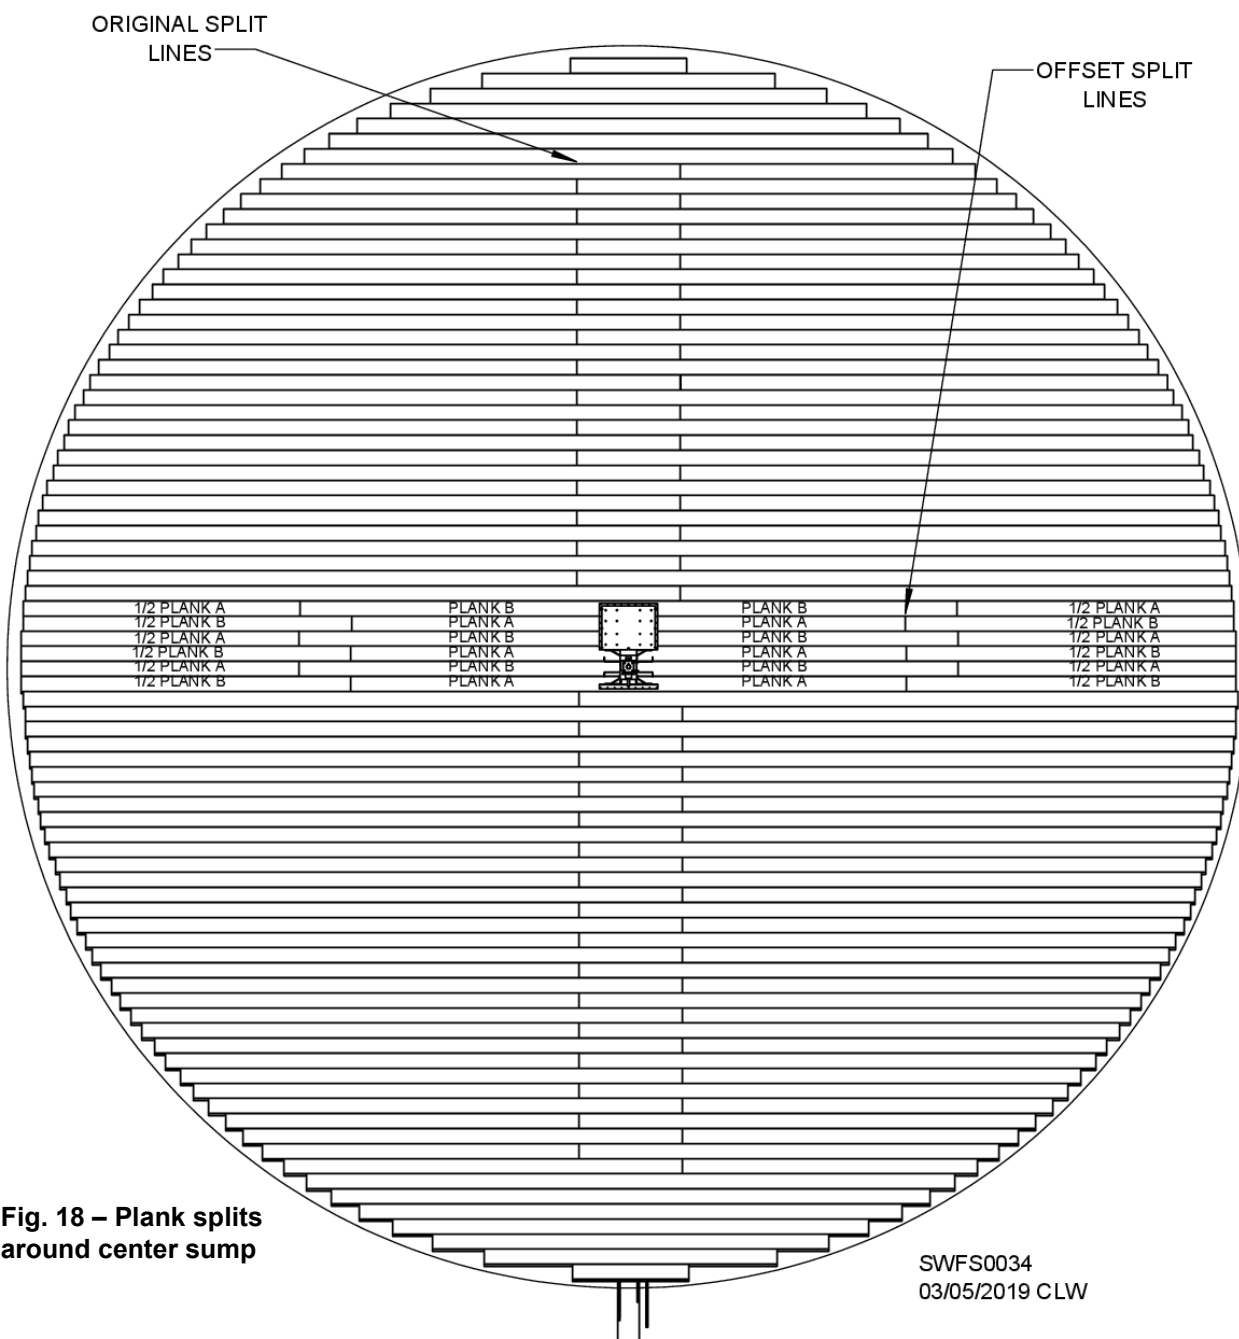

Fig. 18 – Plank splits around center sump
1. Cut "A" plank in half. Use halves as outermost segments of split plank. See Fig. 18.